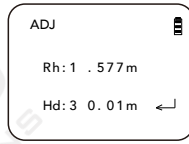
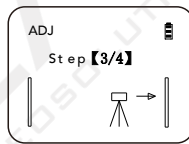

fig. 23
fig. 24
- Rotate instrument to point Staff B and measure it. After data showed up as fig. 23, press the SET button to the next step (fig. 24)